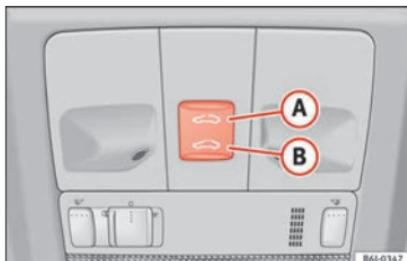

Fig. 9 On the interior roof lining: Panoramic sunroof controls
- Opening: Press the » » Fig. 9 **A** button once only. If you keep it pressed down, it will open to the desired position.
- Closing: Press the » » Fig. 9 **B** button once only. If you keep it pressed down, it will close to the desired position.